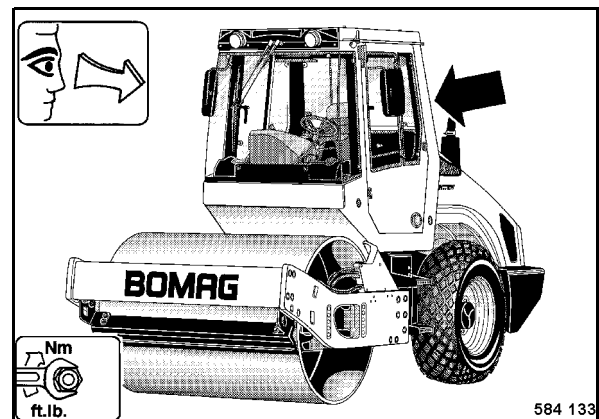

Fig. 171
- Inspect the cabin, especially the ROPS (Fig. 171), for cracks, corrosion, damage and missing fastening parts.